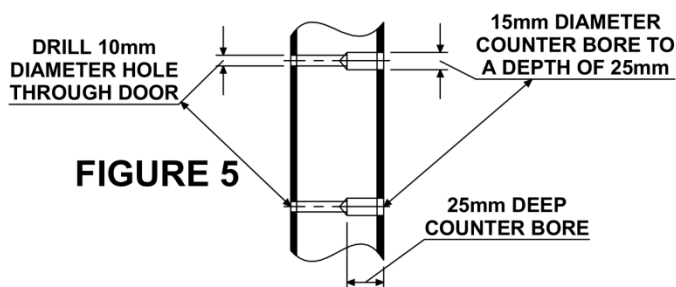

FIGURE 5
17. Remove lock. Drill two 10mm dia. holes and counter bore 15mm dia. x 25mm deep from front. (Fig. 5 & 6)